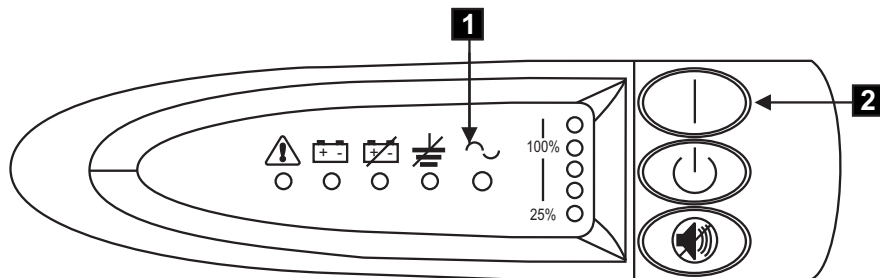

Figure 236. Power switch and indicators of the 2145 UPS
10. All the front panel indicators (see Figure 236) flash for a short time while the 2145 UPS runs a self test. When the test is complete, the mode indicator flashes to show that the 2145 UPS is in standby mode.